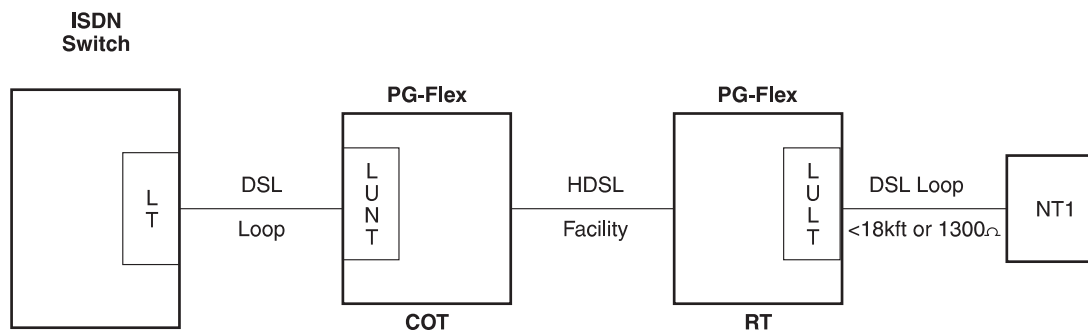

Figure 2. Typical ISDN Configuration
4.1 ISDN is a networking standard that provides end-to-end, simultaneous handling of digitized voice and data traffic on the same link. Figure 2 shows a typical ISDN configuration. The FLC-706 connects an ISDN Digital Subscriber Line (DSL) to the Central Office (CO). Line Termination (LT) in the CO occurs at the ISDN switch. The DSL loops are U-interface. The FRC-756 Channel Unit provides Line Unit Line Termination (LULT) at the RT. The subscriber site has the Network Termination (NT1).
**7.5.1 Outgoing calls.** Verify outgoing calls for both B channels (i.e., calls from the NT1 to the LT per Figure 2):
**7.5.2 Incoming calls.** Verify incoming calls for both B channels (i.e., calls from the LT to the NT1 per Figure 2):